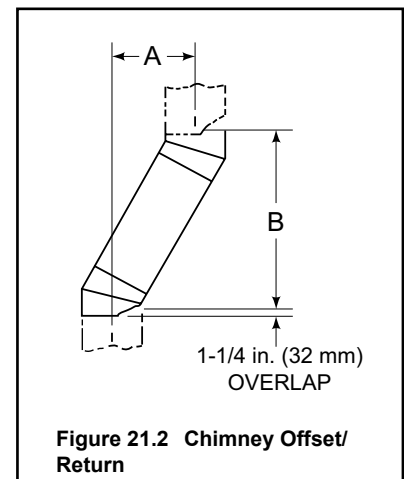

Figure 21.2 Chimney Offset/Return
- Measure how far the chimney needs to be shifted to enable it to avoid the overhead obstacle. See Figure 21.2. Use dimension “A” to determine chimney section required to achieve the needed shift.
Your “A” dimension from Figure 21.2 is 14 1/2 in. (368 mm). Using Table 21.1 the dimension closest to, but not less than 14 1/2 in. (368 mm) is 14 1/2 in. (368 mm) using a 30° offset/return. It is then determined from the table that you would need 34 1/8 in. (867 mm) (Dimension “B”) between the offset and return. The chimney component that best fits your application is one SL324.